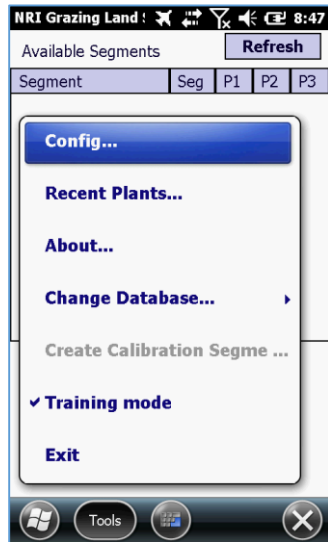

Figure 1. The CASI must be set to training mode to create special use CASI point files.
1. Open the NRI Grazing Land Survey Instrument installed on your field PC and from the **Tools** menu select **Training mode** (fig.1). A check will appear in front of this option when it is selected. This allows you to create and name up to 10 training (special purpose) segments.